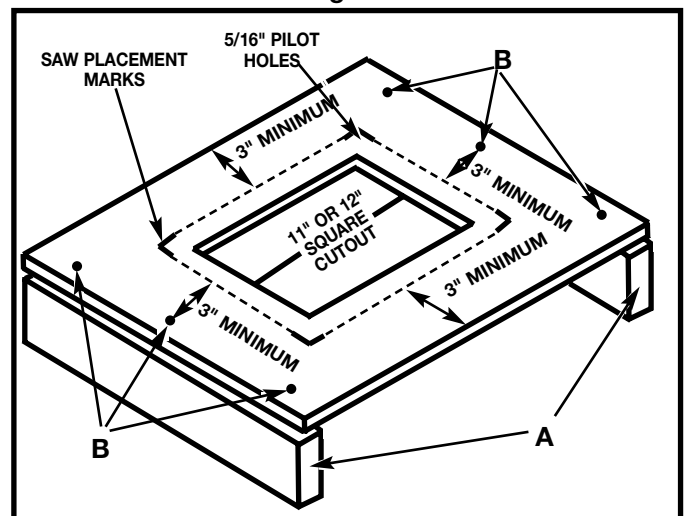

Fig. 4B
You can also construct a simple elevated support, as shown in Fig. 4B.
Square the saw on the supporting surface and mark the location for four 5/16 inch holes to be drilled (Fig. 4B).
Set the saw aside and then drill holes in these marks. Locate and mark an 11 inch or 12 inch square centered between the four mounting holes. Cut out and remove the square (Fig. 4B). To elevate the supporting surface, measure two 2x4s (A) Fig. 4B to the width of two opposite sides of the supporting surface. Attach the supporting surface to the narrow edges of the 2X4s (as shown in Fig. 4B) using wood screws (not provided) in at least three spots (B) Fig. 4B on each side.